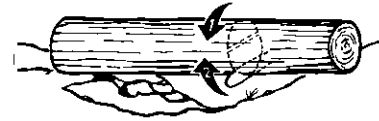

Fig.24
3. Log supported on both ends: First, overbuck 1/3 diameter of log to avoid splintering. Second, underbuck to meet first cut and avoid pinching (Figure 24).